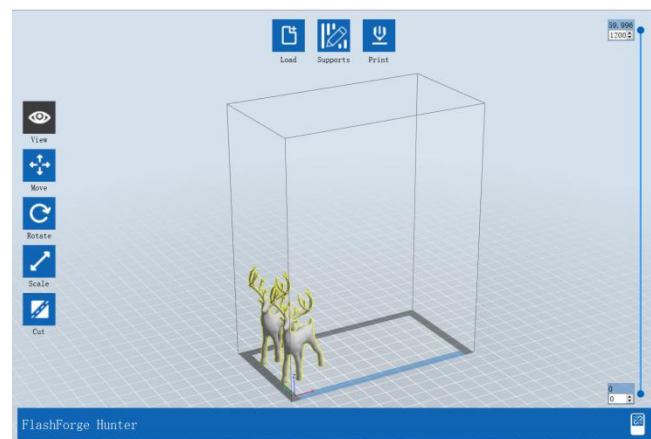

Figure 27 Y Side
- Y Side : After selecting [Y Side] placement rule, the loaded model is automatically placed close to the Y-side, as shown in Figure 27.